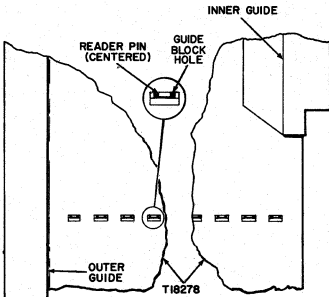

Figure 28
4. Slightly loosen the card stop position adjusting screws (Figure 28) and move the stops forward. They will be adjusted later.
7. Slightly loosen all of the mounting screws that mount the inner and outer card guides. Insert the gauge in the tab card reader so the second column of code holes are positioned over the reader pins and manually cycle the reader until the reader pins come up through the gauge. Move the gauge forward against the pins and center it on the reader pins as shown in Figure 28. Carefully maintaining the gauge in position, bring the card guides up against it and tighten their mounting screws. Cycle the reader to home position.